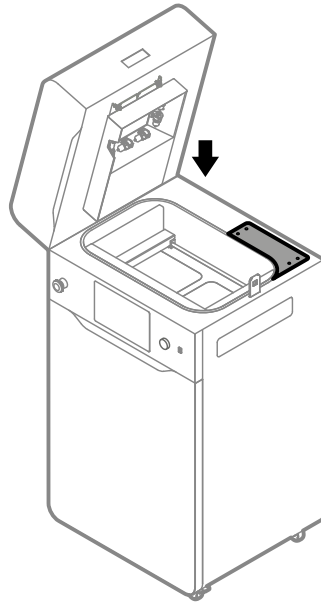

Fig. 13.82 Mounting back the access panel on the top side of the printer.
23. Mount back the access panel on the top side of the printer. Make sure to slide it under the print chamber gasket (fig. 13.82).